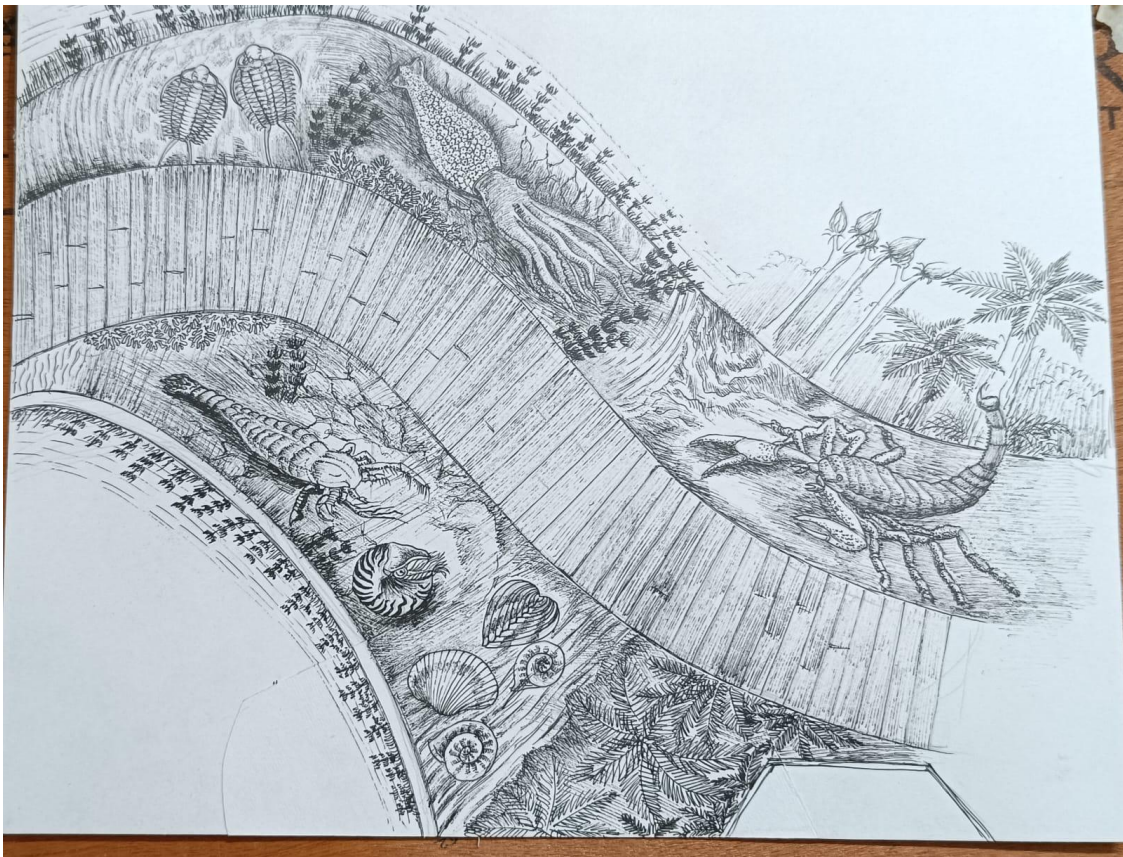

Fig4.1 Overall look and feel of life diversity in Permian sea after Cambrian diorama.
- This diorama will show diversity in Permian sea after Cambrian. fig 4.1